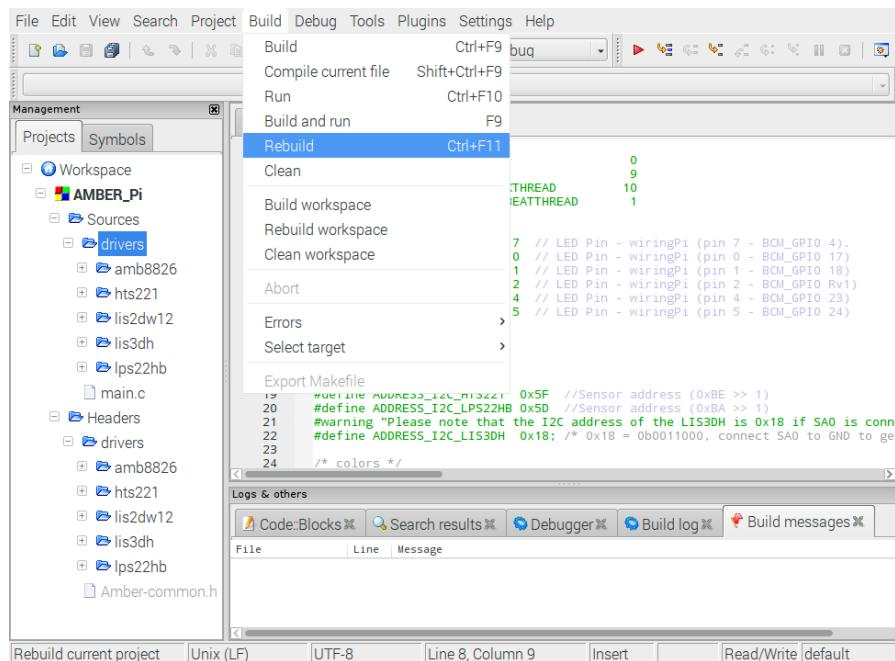

Figure 9: Rebuild the application
8. Then press **Build → Rebuild** to build the project (see figure 9).